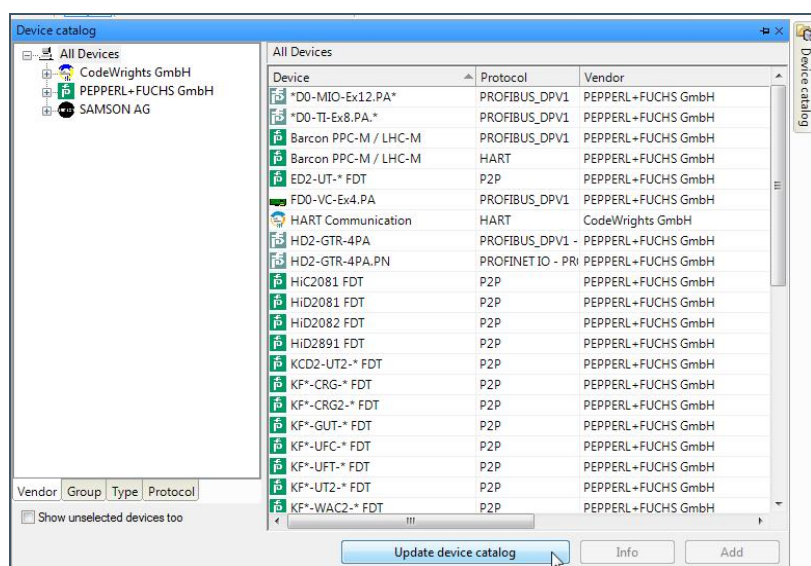

Figure 45: Update device catalog
- 3) To create new PACTware device catalog, click **Update device catalog**, then click **YES** to a popped out dialog box (see: Figure 45: Update device catalog).